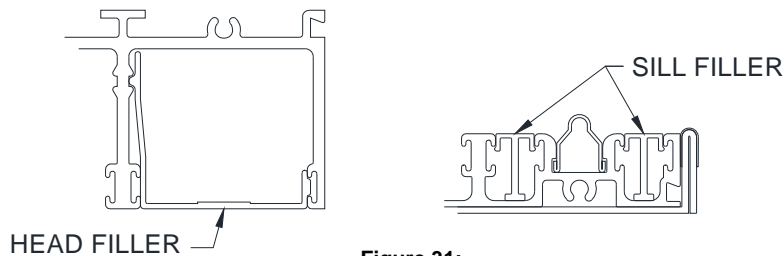

Figure 31:
- a. Series 3070: Install Head Fillers into the head tracks and Sill Fillers into the sill tracks except where the Fillers interfere with the sliding panels (Figures 31).
- b. Series 1070: Install Head Fillers into the "O" panel head tracks and Sill Fillers into the "O" panel sill tracks (Figures 31).